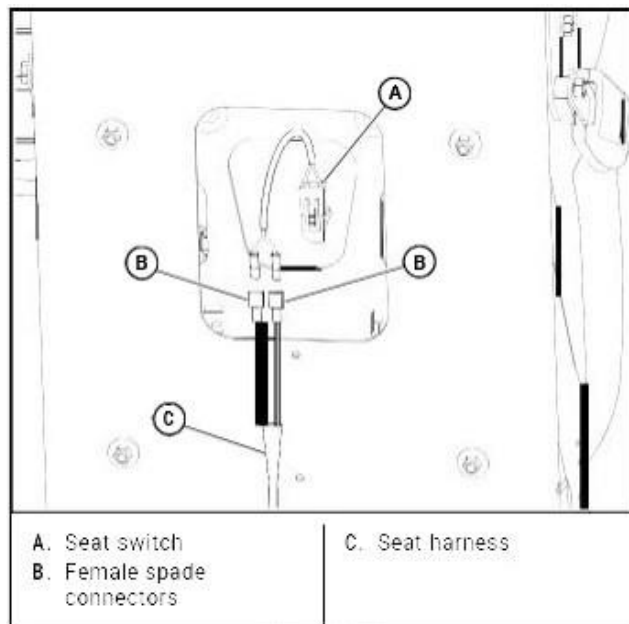

Figure 4
- check the function of the seat switch. Replace the seat switch if it is not operating properly (is not opening or closing) and if the cause cannot be determined. [Figure 4]